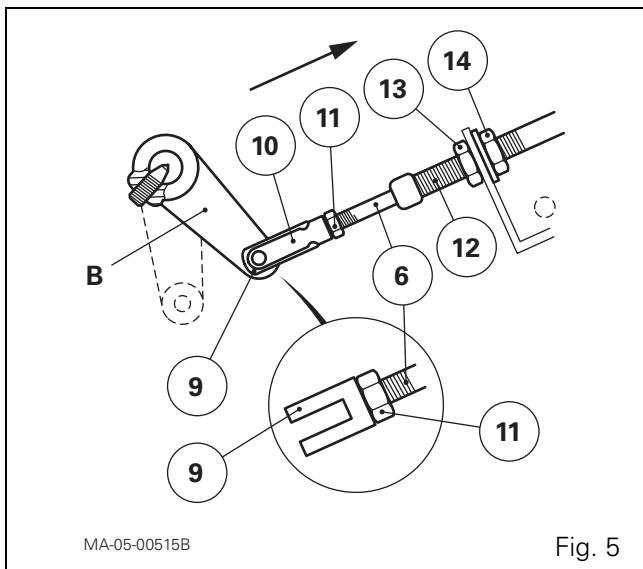
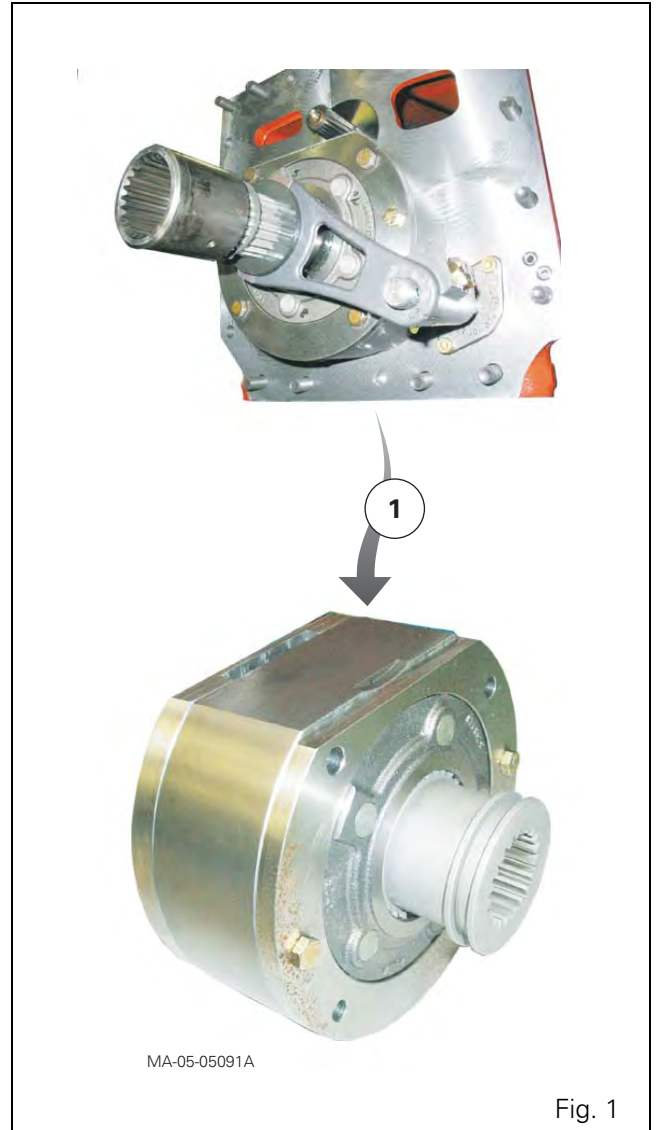

Fig. 5
Fig. 1
32. Place connecting rod B in the "creeper" position (Fig. 5) (reducer dog (8) engaged towards the rear (Fig. 1)), fork locked.
33. Screw the clevis (9) level with the end of the threaded part of the cable (6) (Fig. 5).
34. Fit the clevis (9) to rod B using the clip (10). Tighten the nut (11) (Fig. 5).
35. Adjust the stop (12) with the nut (13), making sure that connecting rod B is still firmly locked.
36. Tighten the nut (14).
The super creeper reducing unit (1) is located at the rear of the main gearbox (Fig. 1). It is fitted as an option. It comprises: